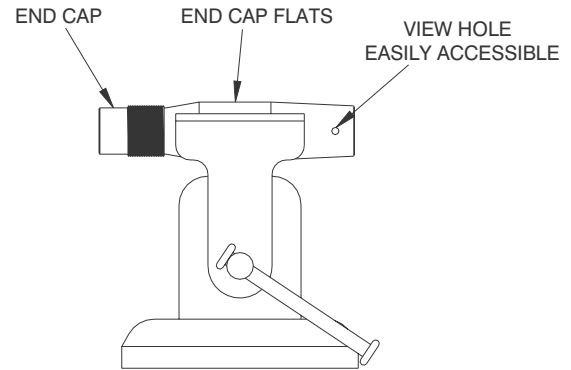

Figure 9-28. Secure End Cap in Vise.
2. Place the End Cap (16) horizontally in a vise or saddle clamp as shown in Figure 9-28.
- b. Clamp the End Cap (16) tight enough to hold the Tail Assembly in place during disassembly.